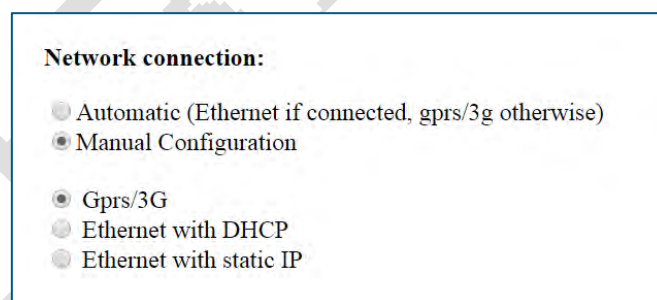

Figure 29: Options for manual configuration.
Manual configuration (Figure 29)
- Figure 29).